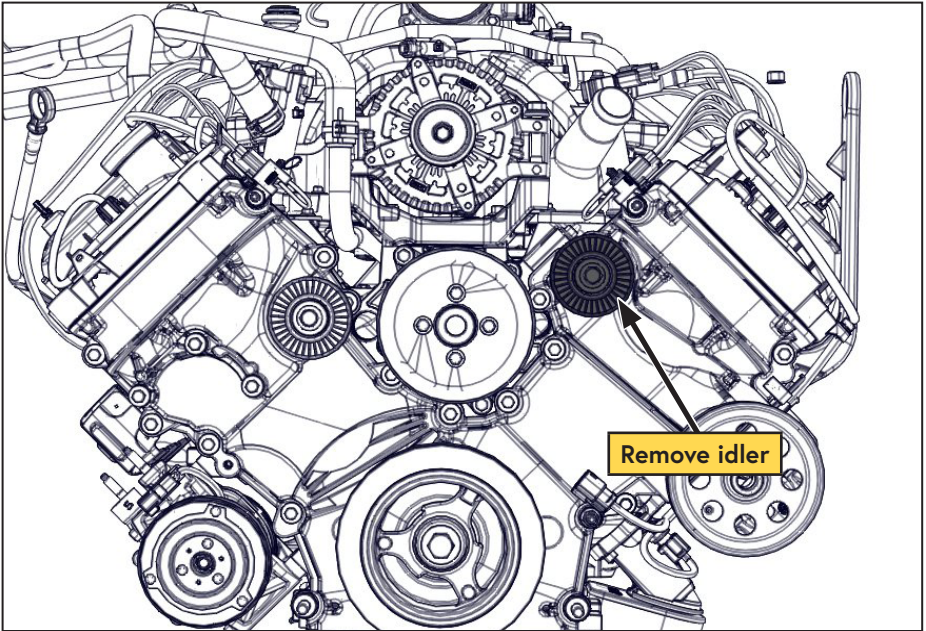

Figure 6 — Remove driver side idler
- Remove the driver side idler and set it aside for use later (Figure 6)